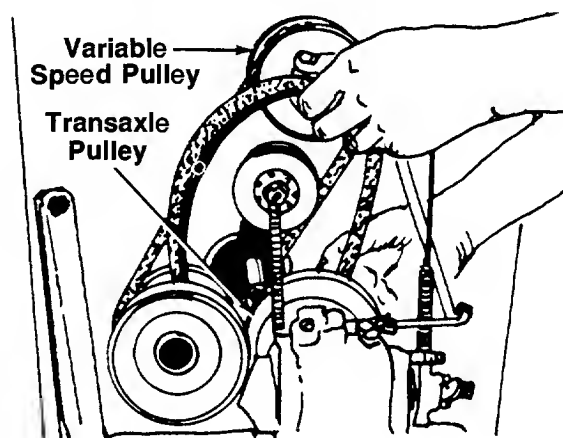

FIGURE 30.
6. Slip the "V"-belt off the variable speed pulley and transaxle pulley. See figure 30.